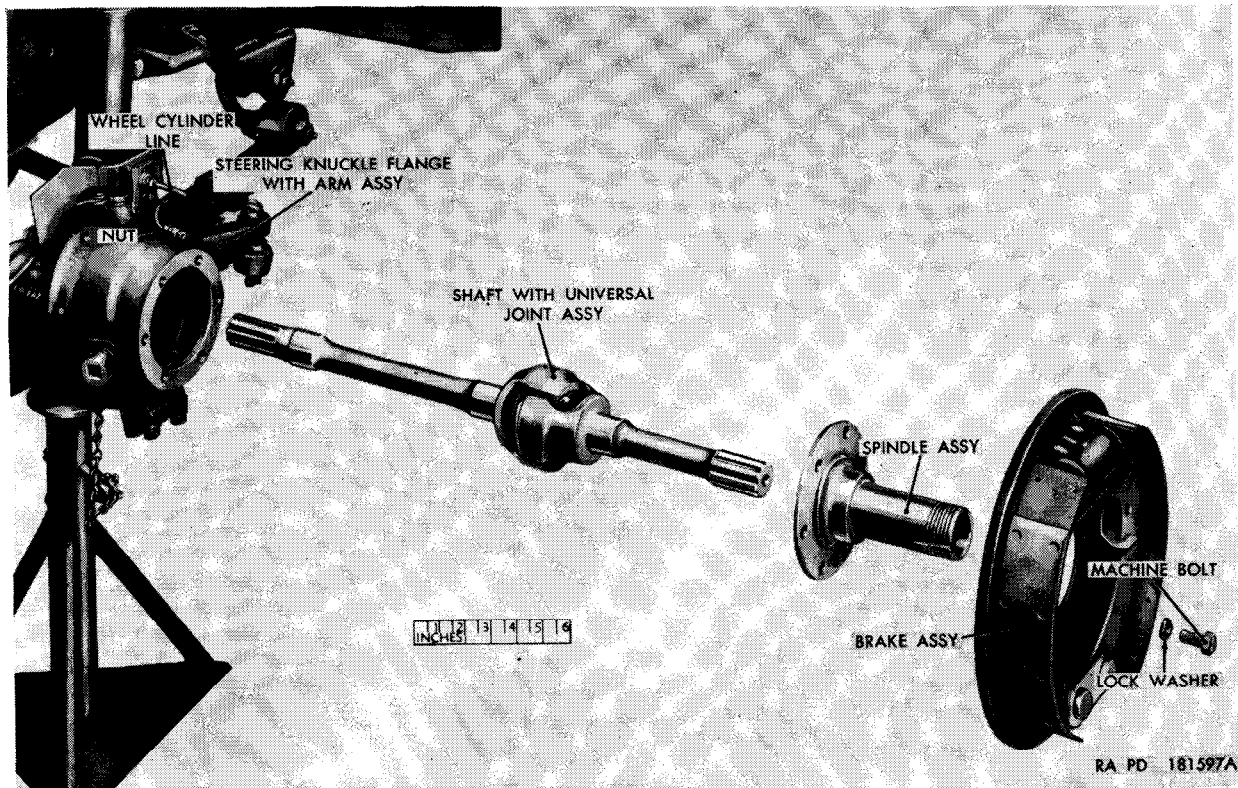

Figure 101. Front axle shaft, spindle, and brake assemblies—partially exploded view.
- (11) Unscrew the nut of the front wheel cylinder line (fig. 101) from the wheel cylinder assembly.
- (12) Remove the six bolts and lockwashers securing the brake assembly and spindle assembly to the steering knuckle flange with arm assembly (fig. 101) and pull the brake off the spindle.
- (13) Pull spindle (fig. 101) from steering knuckle.
- (14) Pull the shaft with universal joint assembly out of the axle housing.
- (1) Insert the shaft with universal joint assembly through the steering knuckle flange with arm assembly (fig. 101) and into the axle housing. Rotate the shaft until the splines on the shaft enter the differential side gear. With a soft mallet, tap axle shaft into axle housing until it seats.
- (2) Position the spindle assembly (fig. 101) on the shaft, align the spindle mounting holes with the mounting holes in the steering knuckle flange and tap the spindle into position against the flange.
- (3) Position the brake assembly on the shaft, align the mounting holes in the brake with the mounting holes in the spindle and press brake against the spindle. Secure the brake and spindle to the steering knuckle flange with six  $\frac{3}{8}$ -inch lockwashers and  $\frac{3}{8} \times 3\frac{3}{4}$  bolts (fig. 101).
- (11) Screw the nut of the front wheel cylinder line (fig. 101) into the wheel cylinder assembly.
- (12) Position the hub cap over the shaft drive flange and tap into position.
- (13) Install wheel (par. 228).
- (14) Remove the safety stands or blocking and lower vehicle to ground.
- (15) Bleed brakes (par. 246).